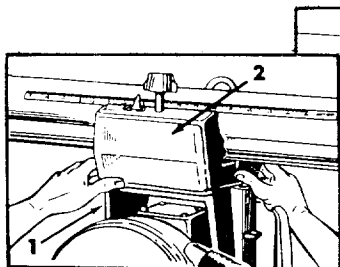

Figure 24
To test looseness in the carriage, firmly grasp the carriage (Item 1, figure 24) at the level of the ball bearings and apply a firm rocking motion.
3. Remove left hand carriage cover (Item 2, figure 24).